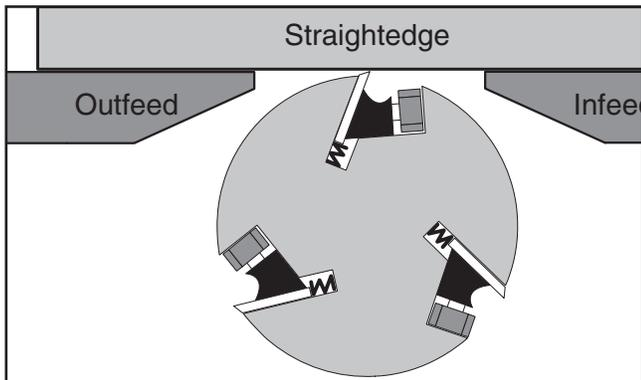

Figure 70. Infeed table adjusted even with outfeed table and knife at TDC.
3. Adjust the infeed table until it is level with the outfeed table, as illustrated in **Figure 70**.